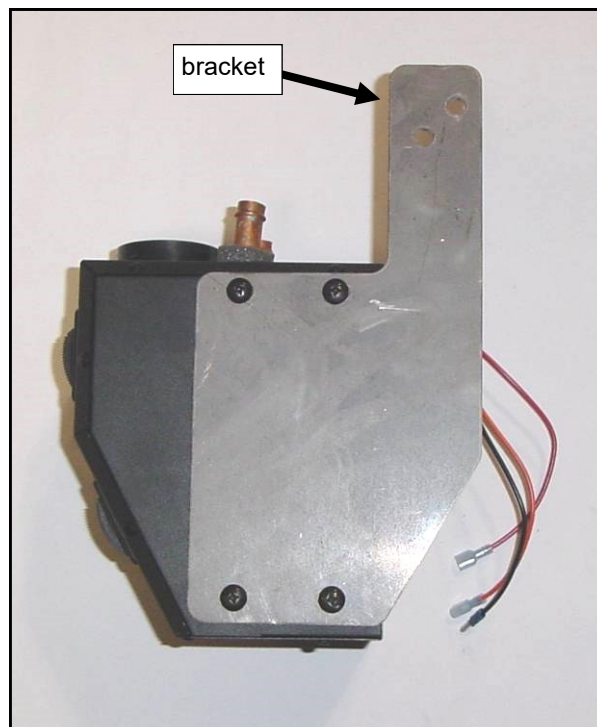

Fig. 2.2 (heater bracket)
2.2 Per fig. 2.2, attach the supplied bracket to the heating unit as shown using four original equipment bolts from the side of the heater.